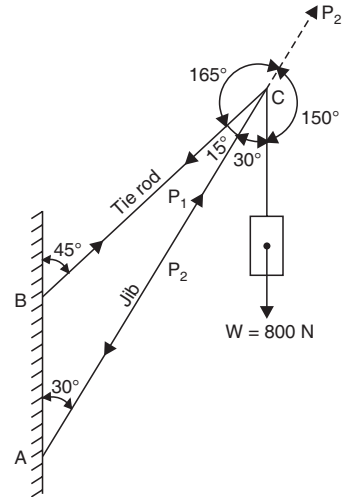

Fig. 2.37
**Example 2.20.** What axial forces does the vertical load  $W = 800\text{ N}$  induce in the tie rod and the jib of the jib crane shown in Fig. 2.37? Neglect the self-weight of the members.
**Sol.** Let  $P_1$  and  $P_2$  be the forces induced in the tie rod and jib respectively. The tie rod will be under tension and jib will be compression as shown in Fig. 2.37.